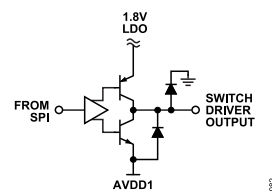

Figure 87. TR_SW_NEG and TR_POL Switch Driver
- ▶ TR_SW_NEG for an external negative voltage control transmit or receive switch. Outputs between 0 V and AVDD1 (nominally -5 V). A push pull output stage allows sourcing or sinking of up to 1 mA (See Figure 87).
- ▶ TR_POL for a negative voltage control polarization switch. Outputs between 0 V and AVDD1 (nominally -5 V). A push pull output stage allows sourcing or sinking of up to 1 mA (Figure 87).